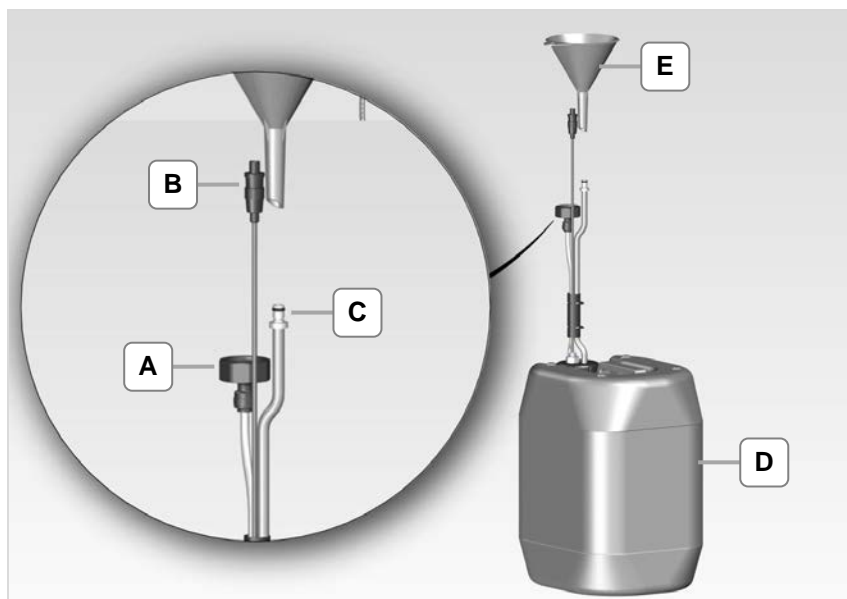
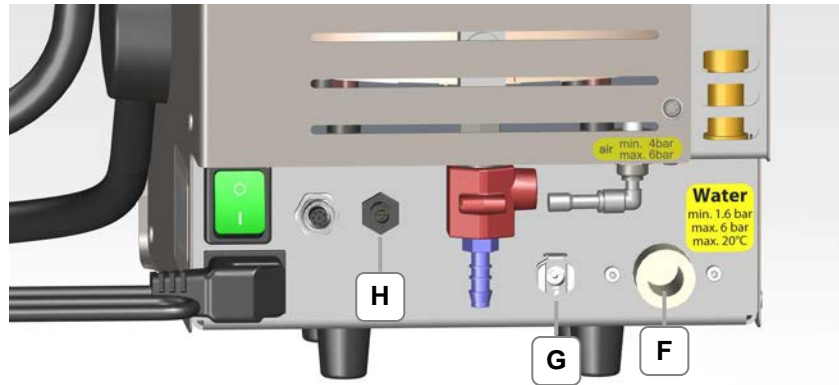
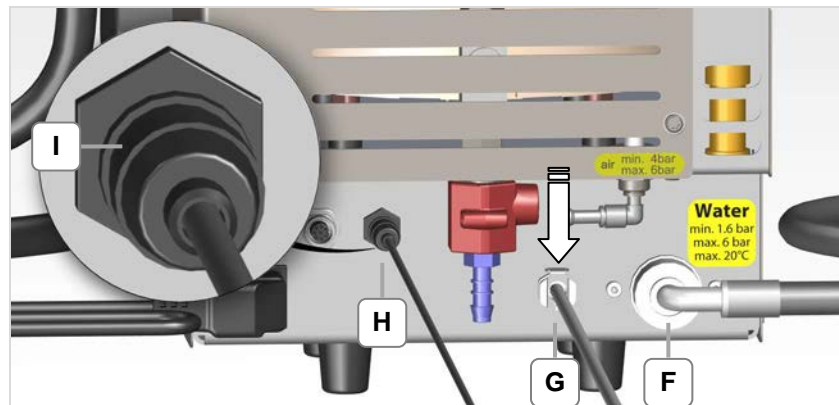
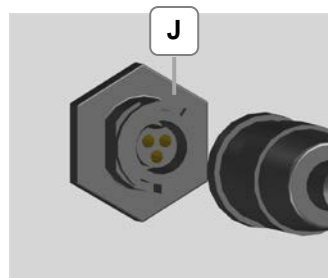

Figure 4.5.1: Canister with accessories
Figure 4.5.2: Connections for the canister (rear side of the device)
Figure 4.5.3: Connections for the canister connected
Figure 4.5.4: Plug alignment (J)
1. Screw on the screwed thread (Figure 4.5.1-A) of the water hose onto the water connection of the device (Figure 4.5.2-F). Inspect whether the seal is positioned correctly in the screwed thread (Figure 4.5.1-A).
2. Connect the cable connector (Figure 4.5.1-B) for the fill level monitoring to the connection (Figure 4.5.2-H) and turn the front cap (Figure 4.5.3-I) until it locks. Observe the plug direction (Fig 4.5.4-J).
3. Insert the ventilation hose (Figure 4.5.1-C) into the connector (Figure 4.5.2-G).
- Ensure when connecting the ventilation hose that the locking lever (Fig 4.5.3-G) points downwards in the direction of the arrow!